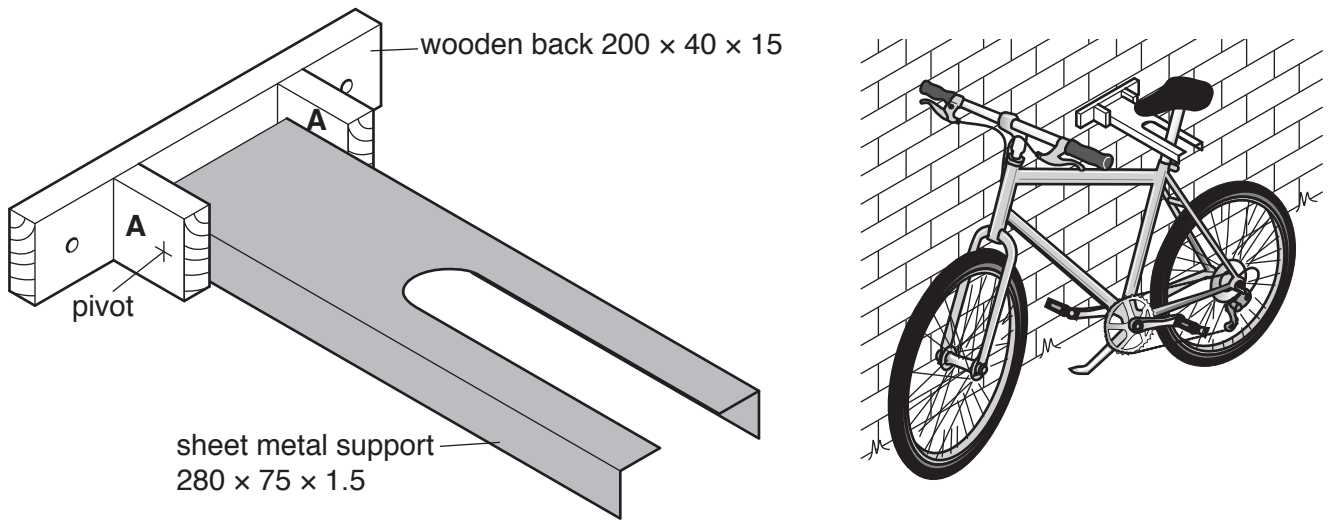

Fig. 11
12 Fig. 11 shows views of a cycle rack that could be fixed to the wall of a garage or shed.
- (b) Sketch and name a suitable method of joining parts **A** to the back shown in Fig. 11.